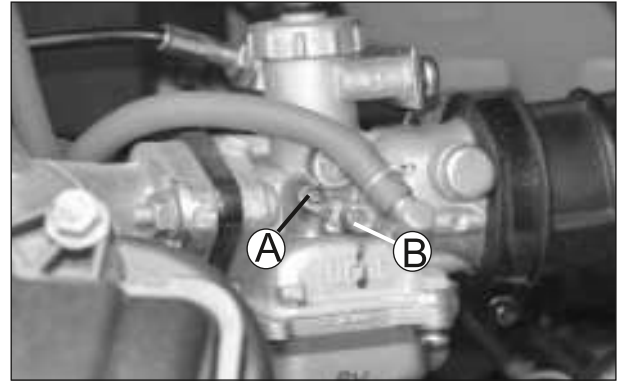

Fig. 4.21
- Remove the air screw (A) along with spring air adjuster, E washer air screw and 'o' ring, similarly idling adjuster screw (B) along with spring from the carburetor. (Fig. 4.21)